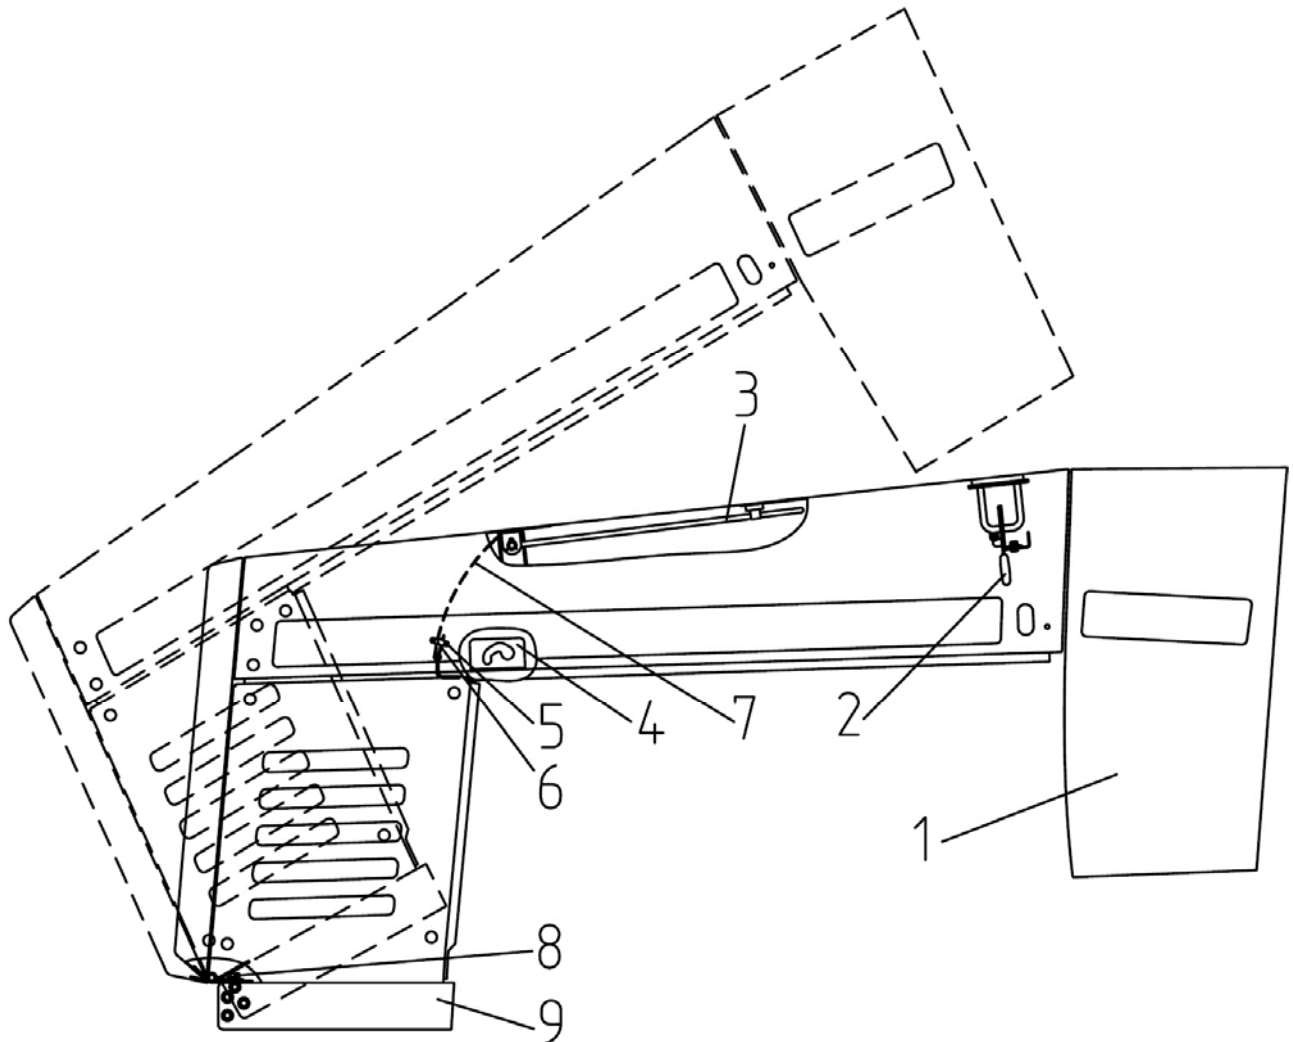

Figure 8.6 Facia of tractors
a) dismount hood 1 (Figure 8.6), and to do this: